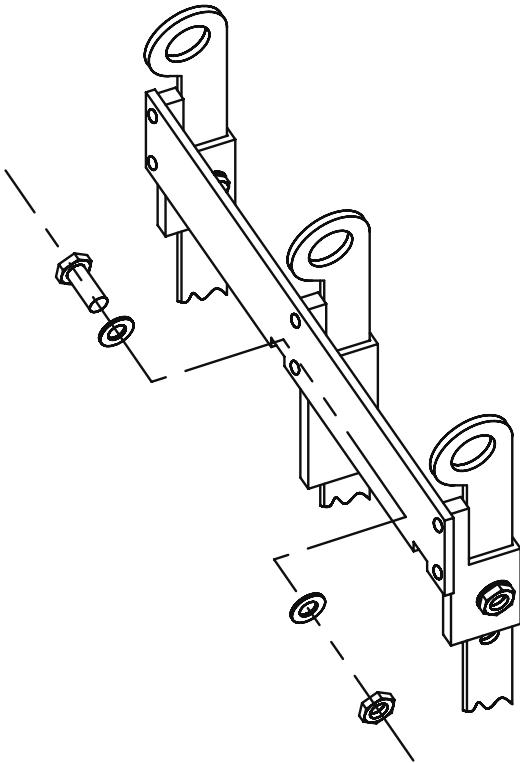

Figure 5. Conversion handle P20029667B0001
Switchgear with serial numbers above 3Q9317000 utilize a newer generation of Tri-Phase Control and do not require installation of a jumper connector for ganged, three-phase operation of the flux-shift trippers. Instead, three-Phase operation of the flux-shift trippers is selected by placing switch SW5, located on the Tri-Phase board (Figure 5), into the GANGED position.
2. Locate the SW5 DIP switch, which is in the lower right corner of the control panel; Refer to Figure 5. Switch the position of the DIP switch from INDEPENDENT to GANGED position.